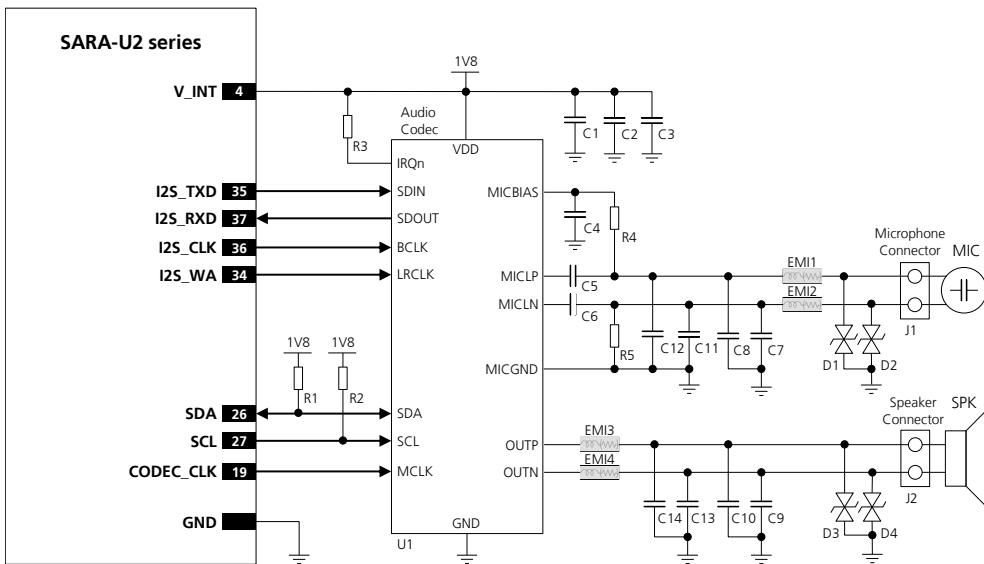
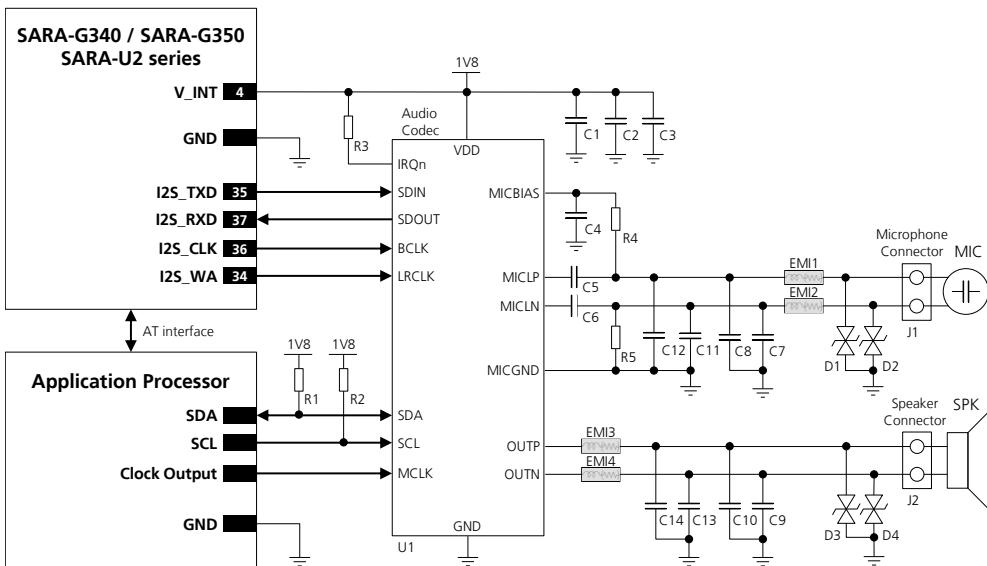

Figure 79: Application circuit for connecting SARA-U2 modules with an external audio codec to provide voice capability
Figure 80: Application circuit for connecting SARA-G3 / SARA-U2 modules with an external audio codec
Figure 79 and Table 53 describe an application circuit example for the I²S digital audio interface of SARA-U2 modules providing voice capability using an external audio voice codec. DAC and ADC integrated in the external audio codec respectively converts an incoming digital data stream to analog audio output through a mono amplifier and converts the microphone input signal to the digital bit stream over the digital audio interface.
- Additional components are provided for EMC and ESD immunity conformity: a 10 nF bypass capacitor and a series chip ferrite bead noise/EMI suppression filter provided on each microphone line input and speaker line output of the external codec as described in Figure 79 and Table 53. The necessity of these or other additional parts for EMC improvement may depend on the specific application board design.
Figure 80 describes an application circuit example for connecting the I²S digital audio interface of SARA-G340, SARA-G350 and SARA-U2 modules to an external audio voice codec, using the same parts listed in Table 53.
- Additional components are provided for EMC and ESD immunity conformity: a 10 nF bypass capacitor and a series chip ferrite bead noise/EMI suppression filter provided on each microphone line input and speaker line output of the external codec as described in Figure 80 and Table 53. The necessity of these or other additional parts for EMC improvement may depend on the specific application board design.
As in general any external digital audio device compliant to the configuration of the digital audio interface of the cellular module can be used, various external audio codecs other than the one described in Figure 79, Figure 80 and Table 53 can be used to provide voice capability. For example the Maxim MAX9867 audio codec, the Maxim MAX9880A audio codec as well as many other parts produced by the same or other various manufacturers (including Texas Instruments, Wolfson / Cirrus Logic, Freescale, etc) can be used instead of the Maxim MAX9860 audio codec described above, implementing and configuring an appropriate application circuit according to the specific device and application requirements.